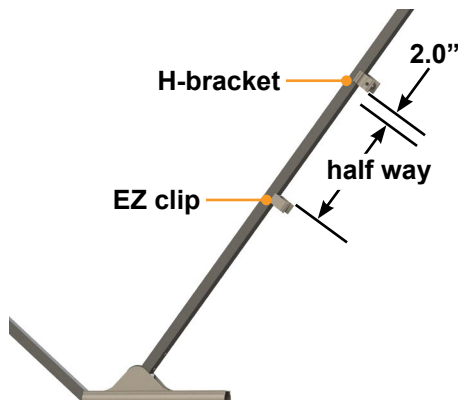

Fig.21
1. Using a tape measure, start at the H-bracket and measure down along the face of the front frame—of the previously installed H-brackets—to a distance no less than 2" from the bracket to no more than half-way down the front frame (Fig.21).